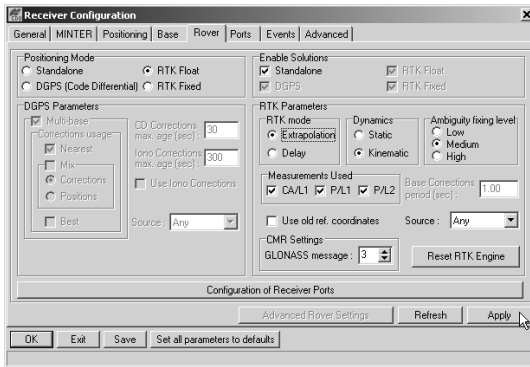

Figure 3-12. Rover Tab Configuration
5. Select the **Rover** tab and set the desired Positioning Mode (Figure 3-12).